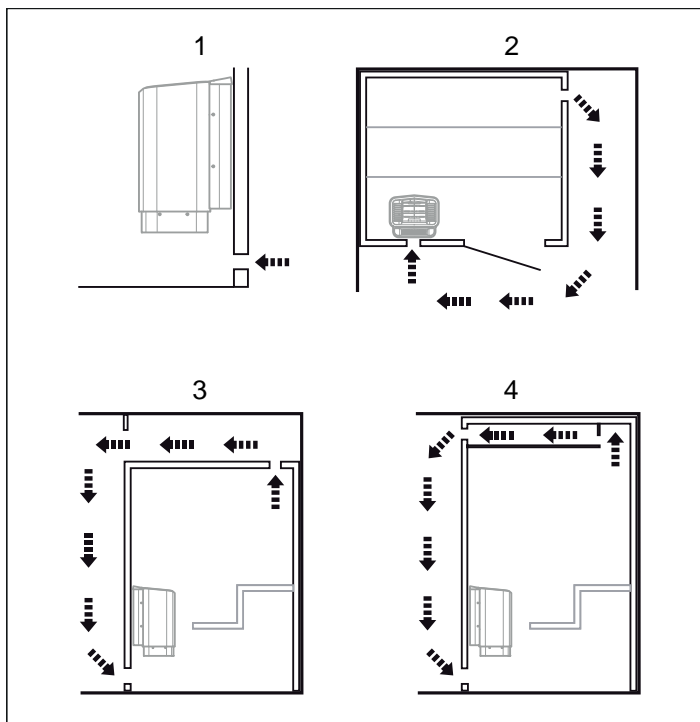

Figure 6: Positioning the air intake and exhaust vents
In a sauna, the air should be changed about 6 times an hour. See Figure 6.
- at the maximum possible distance from the air intake vent, e.g. diagonally (see Figure 6).
- high on the wall or in the ceiling (see Figure 6).